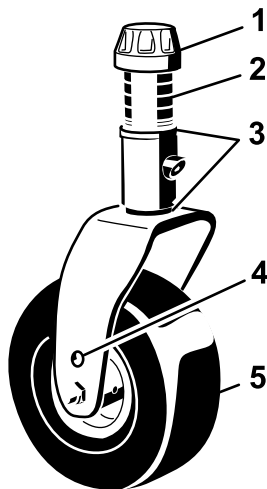
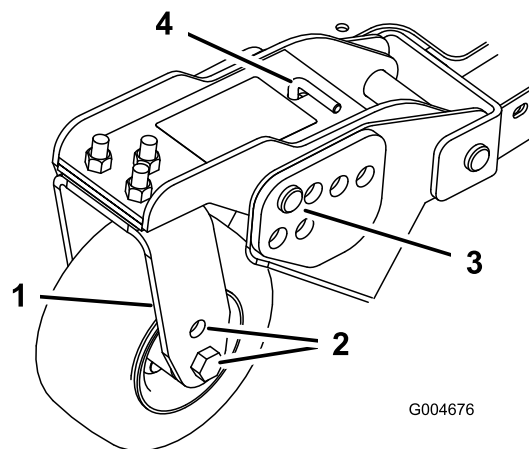
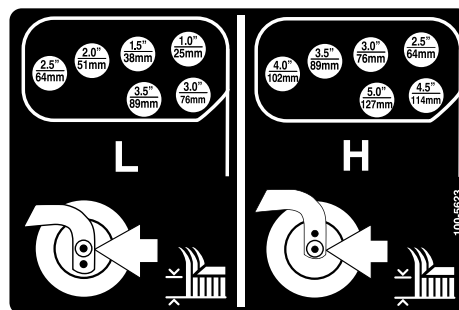

Figure 20
Figure 22
Figure 23
- Position the castor wheel axles in the same holes in all of the castor forks (Figure 20 and Figure 22). Refer to the following chart to determine the correct hole for the setting.
- Remove the tensioning cap from the spindle shaft (Figure 20) and slide the spindle out of castor arm.
- Remove the hairpin cotter and clevis pins from the castor pivot arms (Figure 22).
- Rotate tension rod to raise or lower pivot arm until holes are aligned with selected height-of-cut bracket holes in the cutting unit frame (Figure 22 and Figure 23).